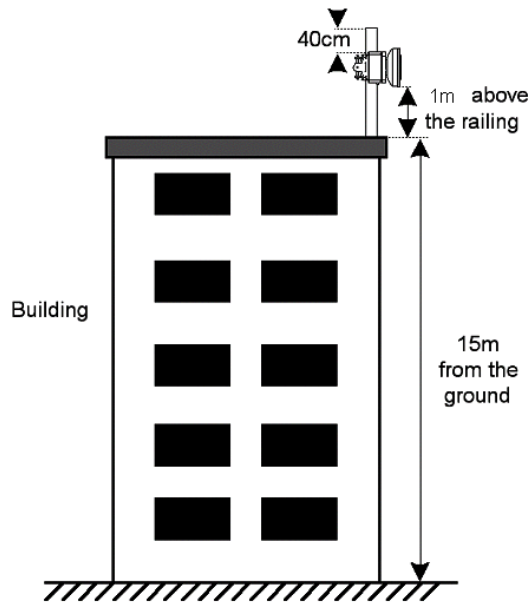

Figure 8-2: Installing the RFU-TS on the Roof Corner
- Do not install the RFU at the top of the pole; always leave at least 40 cm space between the top of the pole and the RFU for better lightning protection (see Figure 8-2).
- It is recommended to install the TS-RFU at the corner of the roof 1m above the railing and no less than 15 m above the ground (see Figure 8-2). If the existing conditions do not match the rules of a specific area, install it according to the previous guideline.